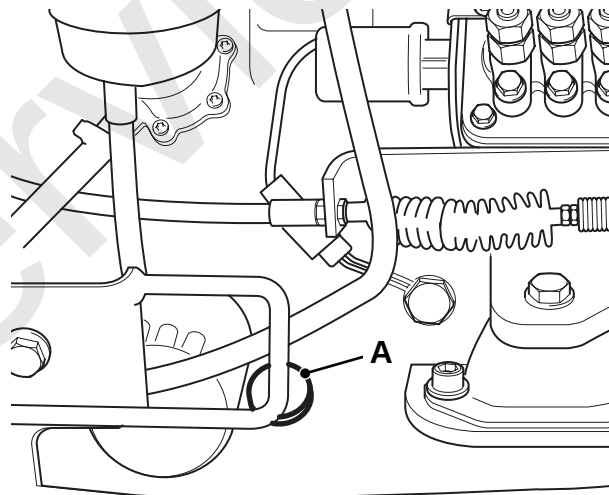

Fig 82.
- 3 Withdraw dipstick and wipe clean, re-insert fully into tube and withdraw to check level. The correct level will show the oil at the top of the hatched area of the dipstick A. ⇒ Fig 82. \(□ 222\).